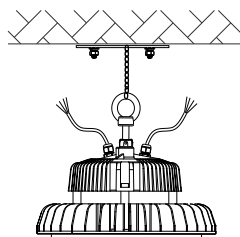

Figure 2
2. Please hang the fixture into the lifting chain and protect it from falling. (Figure 2)